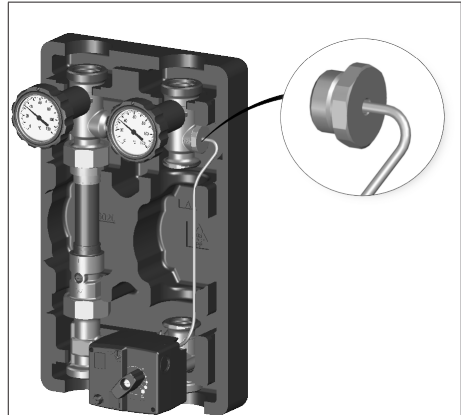

Abb. 6: Connection to the three-way mixing valve
7. Insert the temperature sensor into the sensor location of the station (see example in Abb. 6 auf Seite 22).